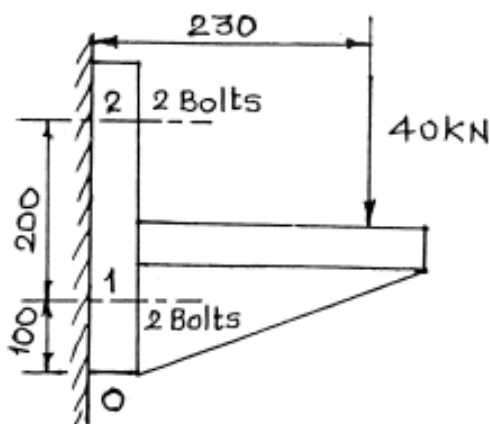

Fig. 2
- b) A bracket is subjected to a force of 40 kN, as shown in Fig. 2. If the permissible tensile strength and the permissible shear strength for the bolts are 50 MPa and 30 MPa respectively. Determine the size of bolts. 12